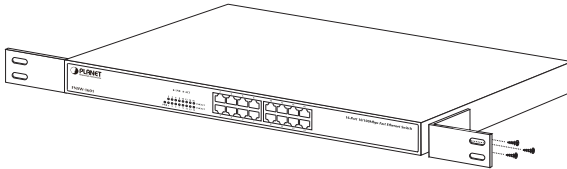

Figure 2-4 Attaching the brackets to the Fast Ethernet Switch
- Step 2:** Attach a rack-mount bracket to each side of the Switch with supplied screws attached to the package. Figure 2-4 shows how to attach brackets to one side of the Fast Ethernet Switch.